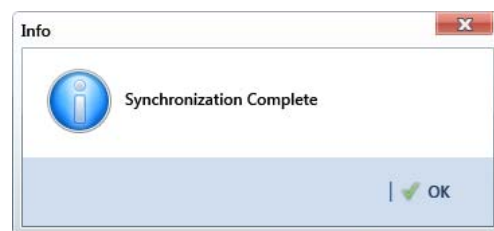

Figure 16-10. Synchronization Complete
- 2 Click  **OK** when the message *Synchronization Complete* displays to complete the process (Figure 16-10).